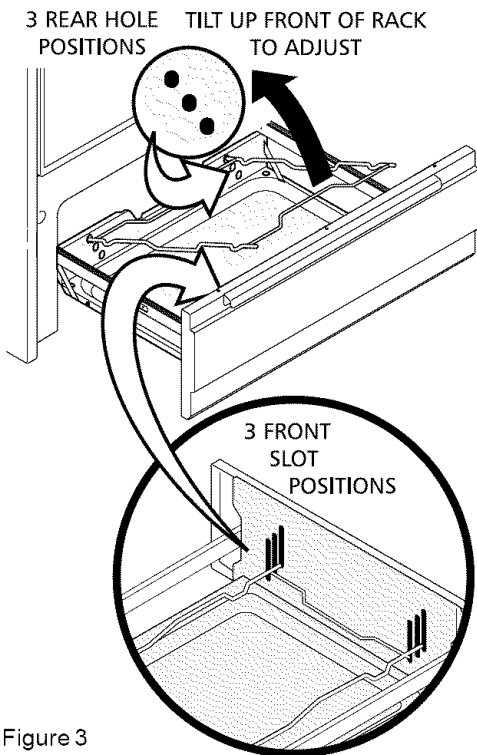

Figure 3
4. Position rack by tilting front of rack up and pulling rack out from locating holes in rear of broiler drawer. Reposition back of rack in the desired locating holes and allow front of rack to slide down into the corresponding slots in front of broiler drawer (Figure 3).